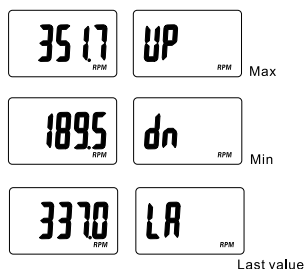

Fig. 2
a. Slide the function switch (2) to select desired unit of measure.
b. Press and hold the measurement button (1); Make physical contact with equipment.
c. After display data is stable and the desired amount of readings have been taken, release the measurement button. The maximum (UP), minimum (dn) and last value (LA) have been recorded over the test period.
d. Press "MEM" button (3) to cycle the display through the maximum (UP), minimum (dn), and last (LA) values. The MEM button must be pressed and released each time to cycle through the values (Fig. 2).